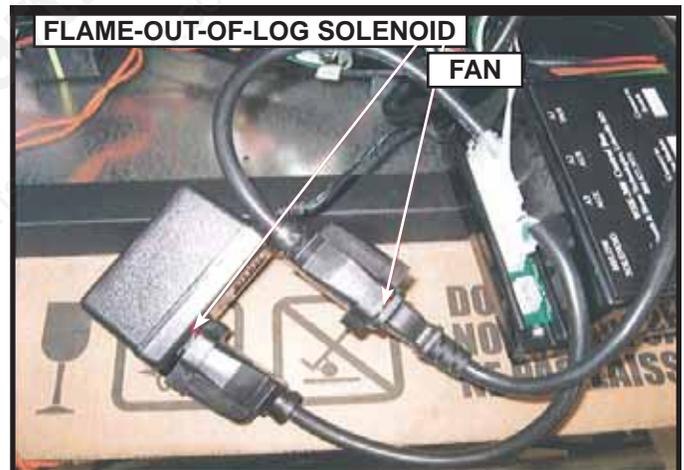

Figure 2.
3. Disconnect Flame-Out-Of-Log solenoid on 6000GLX models only. See Figure 2.
4. Disconnect Fan. See Figure 2.